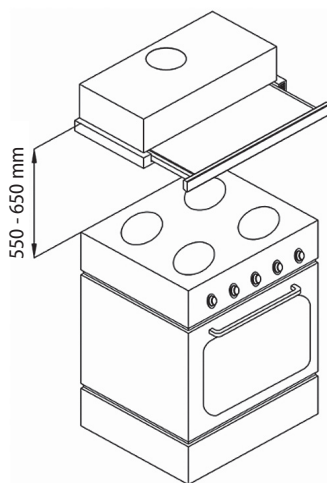

Fig. 3
2. Install new carbon filters on the engine (Fig. 2 and Fig.3).
2. Put the unit on the lower edge of the upper cupboard of the kitchen set. Check the minimum required height according to Fig. 3 (550 mm for electric, and 650 mm for gas hotplates).